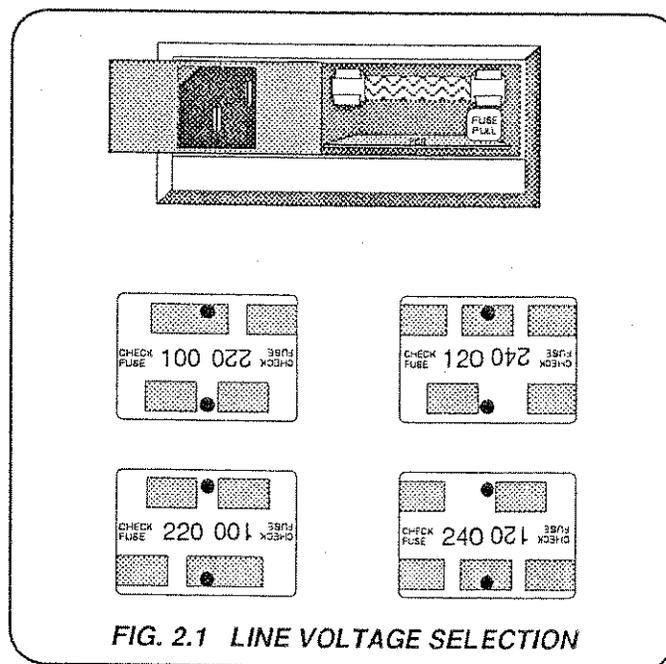

FIG. 2.1 LINE VOLTAGE SELECTION
3. Remove the PC selector board and rotate until the desired voltage is on the left of the upper surface — see *Figure 2.1 opposite*.